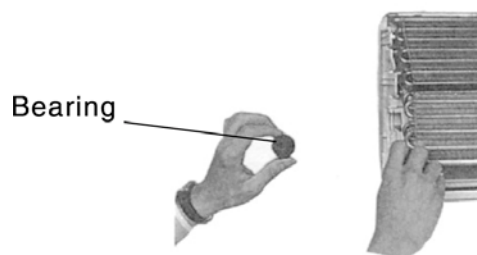

Fig 9
2. Loosen the bearing on the left side of the cross flow fan. (**Fig 9**)